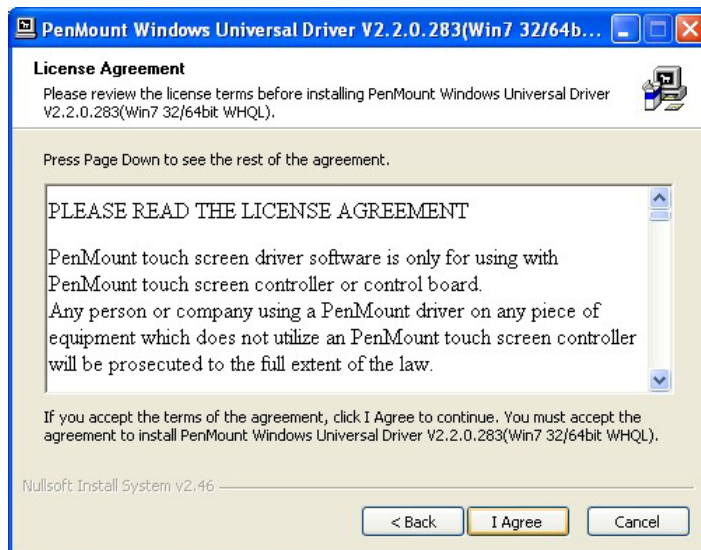

Figure 7-3: License Agreement
Step 13: The license agreement in **Figure 7-3** appears. Accept the terms of the agreement by clicking **I Agree**.